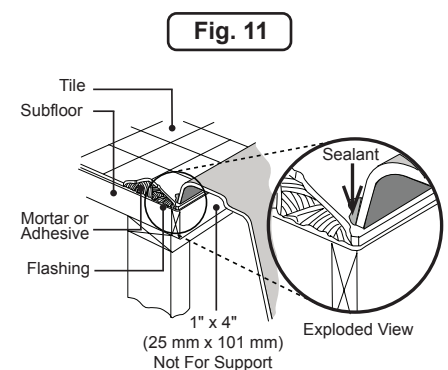

Fig. 11
7. Caulk around the perimeter of bathtub to seal the space between the rim and the finished deck (Figure 11).